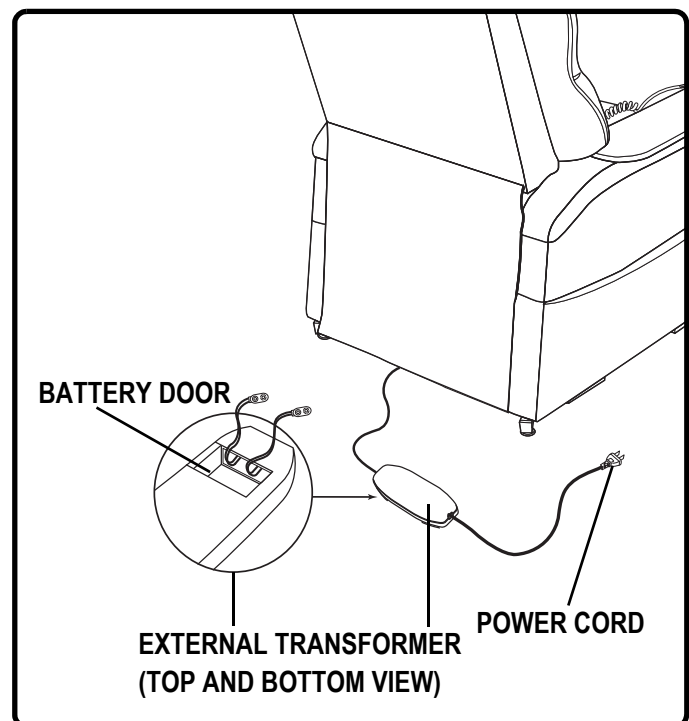

Figure 4.4 Lift Chair Battery Backup Location
3. Install two 9V batteries into the external transformer (**Fig. 4.4**).